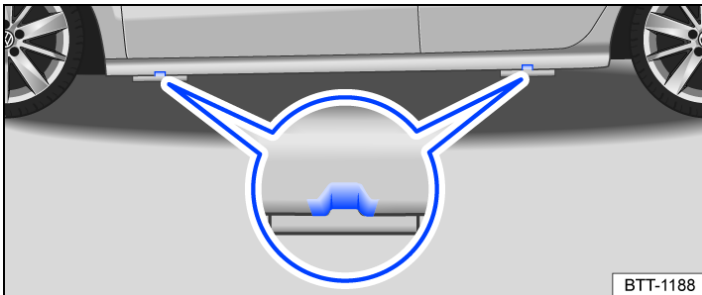
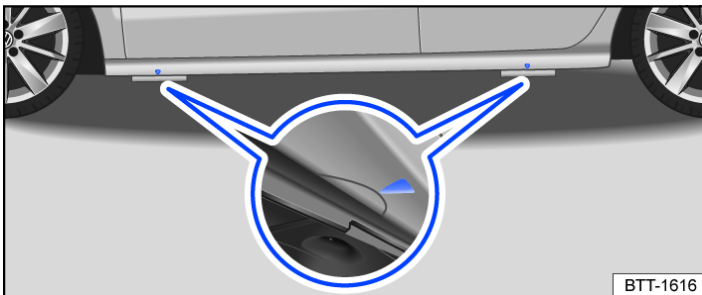

Fig. 1 Lift points for the vehicle jack(variant 1).
Fig. 2 Lift points for the vehicle jack(variant 2).
The vehicle jack must only be positioned at the reinforced areas on the underbody that are located behind the markings on the vehicle body → *fig. 1* or → *fig. 2*. The lift point that is nearest the affected tire should be used → ⚠.
10. Find the vehicle lift point → fig. 1 or → fig. 2 under the vehicle that is closest to the wheel you will be changing.